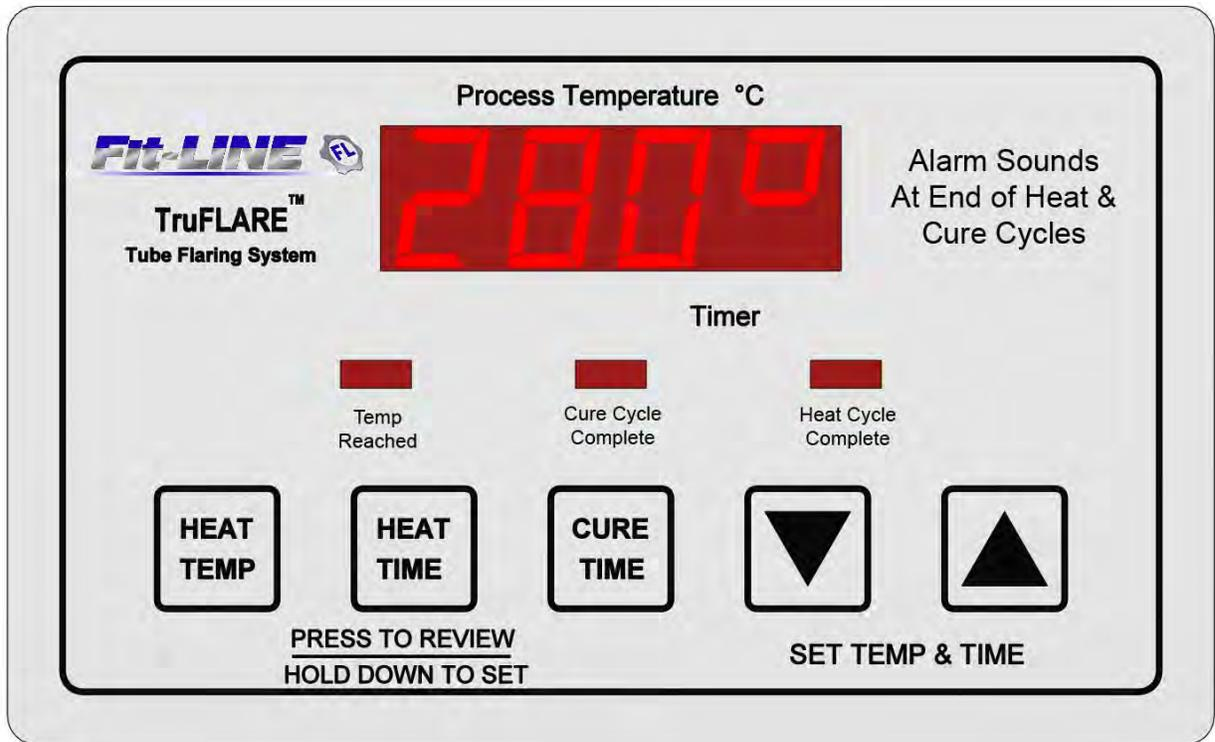
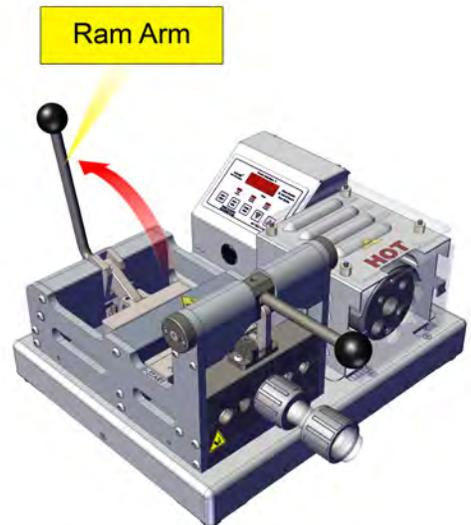

Fig. 2. Settings
Fig. 10. Ram Arm fully retracted
6. To set the heat temperature, heating time, and cure (cool down) time press and hold down the appropriate button on the control panel, "HEAT TEMP", "HEAT TIME" or "CURE TIME". Use the arrow buttons to reach the desired setting according to the guidelines in Table 1 for the selected tubing. See Fig. 2.
7. The tubing heater block begins to heat up when the unit is turned On. The Temp Reached LED will illuminate once the preset Heat Temp set point is reached. Ref. Fig. 2.
4. After the Heat Cycle Complete LED illuminates (Ref. Fig. 2) and the audible sound begins, then remove the tubing. If necessary, twist the tubing slightly to help with the tubing removal.
9. Retract the Ram Arm fully after the Cure Cycle Complete LED (Ref. Fig. 2) illuminates and the audible sound begins. See Fig. 10.